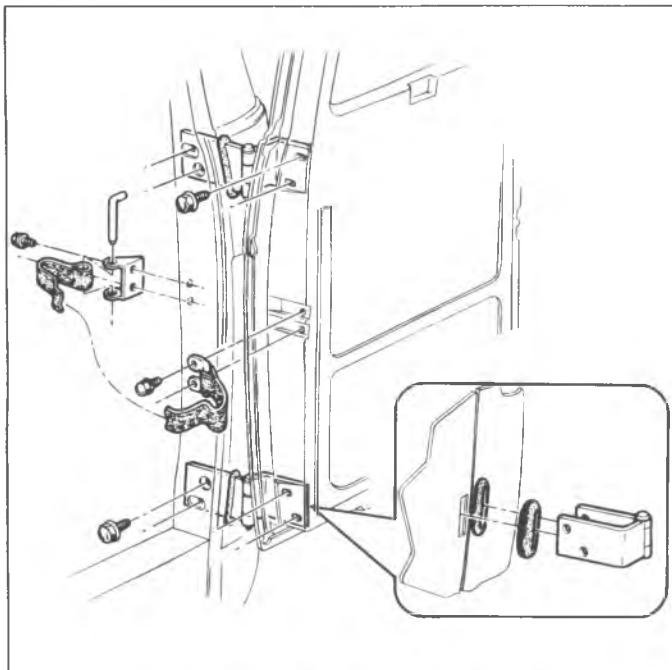

Fig. 33G—Rear Door Hinges and Strap
1. Remove strap release pin. See figure 33G.